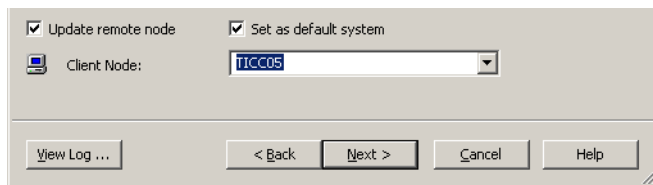

Figure 23. Client Administration Dialog Box (Extract)
3. Select the node to add in the **Client Node** drop-down menu, see Figure 23. Click **Next**.